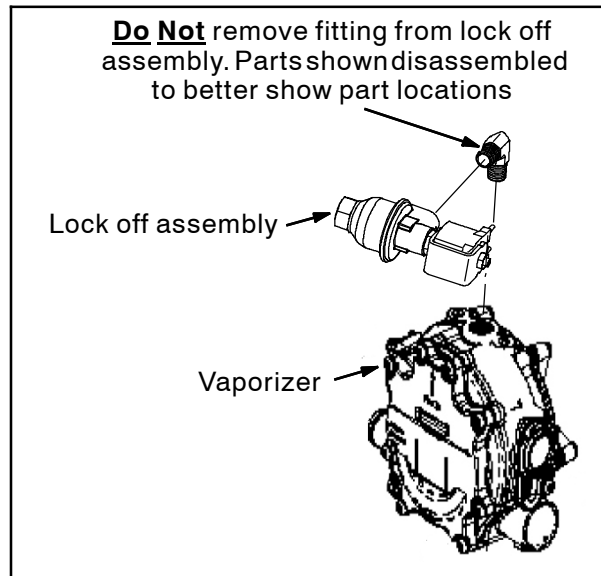

FIG. 8
8. Remove the lock off assembly from the vaporizer. Set the lock off assembly aside. (Fig. 8)
9. Remove the mounting plate / vaporizer from the bench vise and remove the mounting plate from the vaporizer. Set the mounting plate, isolators, and hardware aside. (Fig. 8)
14. Install the lock off assembly onto the new vaporizer (1). (Fig. 8)